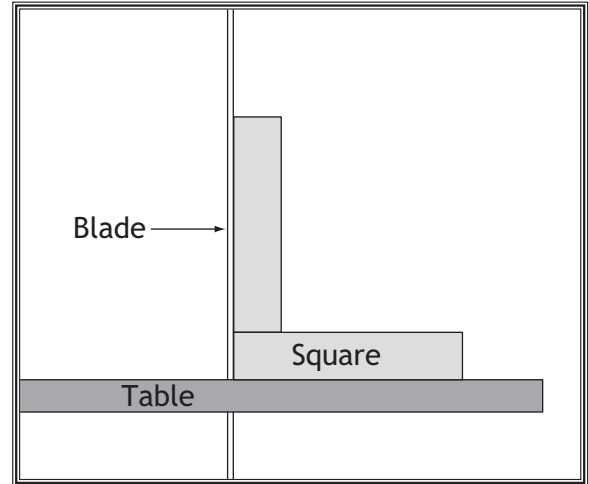

Figure 53. Squaring table to blade.
3. Loosen the guide post lock knob, raise the guide post and lock it in place, then place a machinist's square on the table next to the side of the blade as illustrated in **Figure 53**.